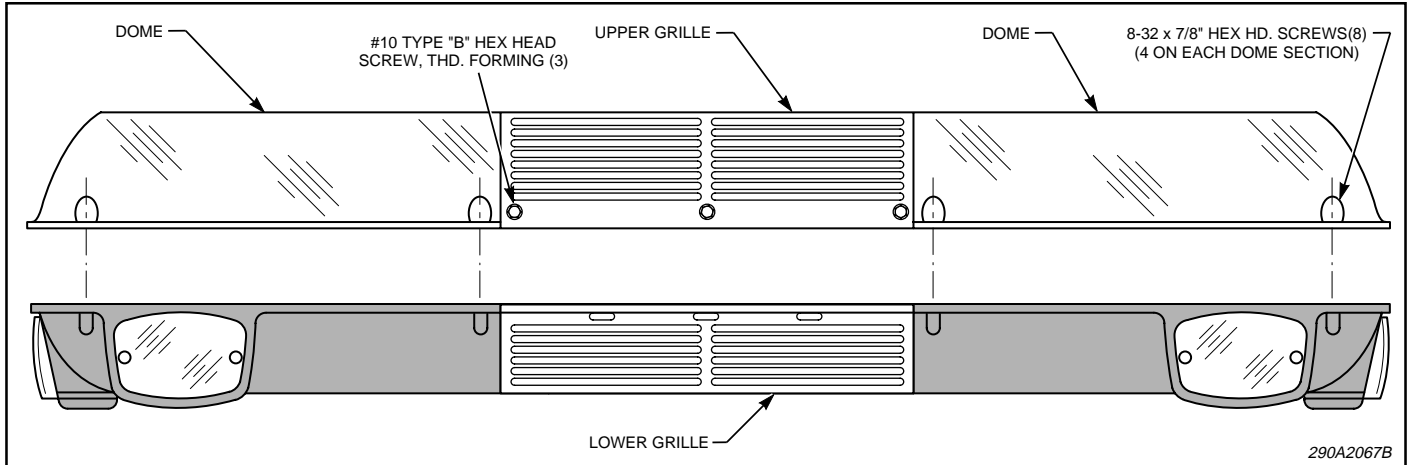

Figure 1.
**B. DOME AND GRILLE REMOVAL (see figure 1).**
2. Remove three (3) type "B" hex washer head thread-forming screws which secure the upper